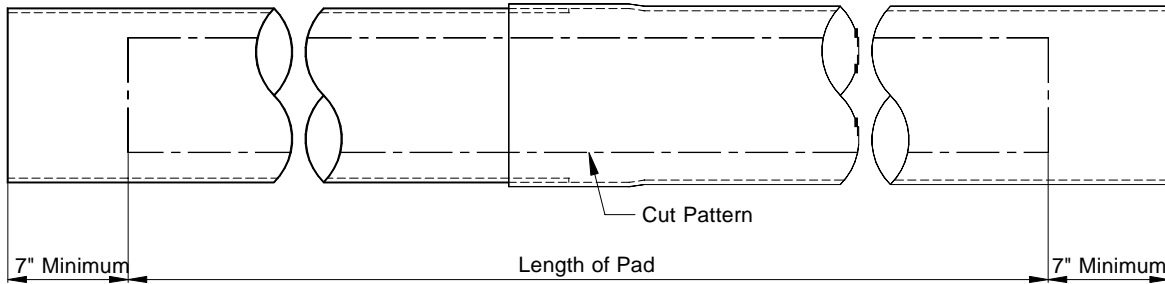

Figure 8
- 12) Starting on the end that the tee will mount on, measure 7" from the end of the pipe and place a mark on both lines drawn in Step 11. From these marks, measure a distance equal to the pad length of the system. The remaining length of pipe may be longer than 7" or can be cut down to no less than 7". Draw a line between these marks to form the end of slot to be cut. **See Figure 8.** Using a circular saw, cut one of the long marked lines. (Cut the end lines last.) While cutting the first line insert a screwdriver into the cut 18" to 24" behind the saw to keep the cut from pinching and stalling the circular saw. Then cut the remaining lines. **See Figure 8.** **Clean out saw dust from bottom of pipe.**